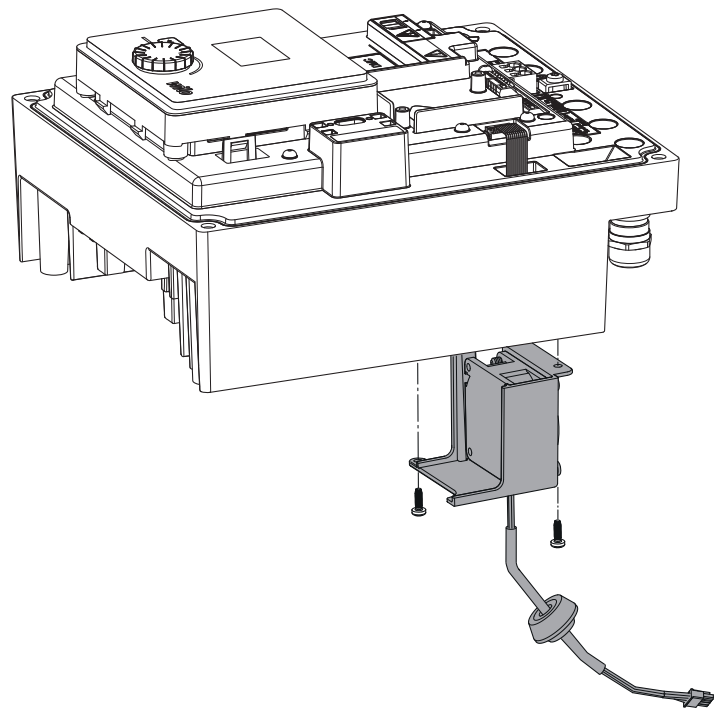

Fig. 48: Remove the module fan incl. cable and rubber sealing
- Remove the fan and release the cable with the rubber sealing from the lower part of the module (Fig. 48).